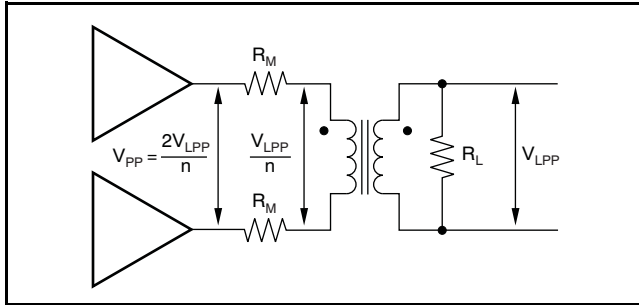
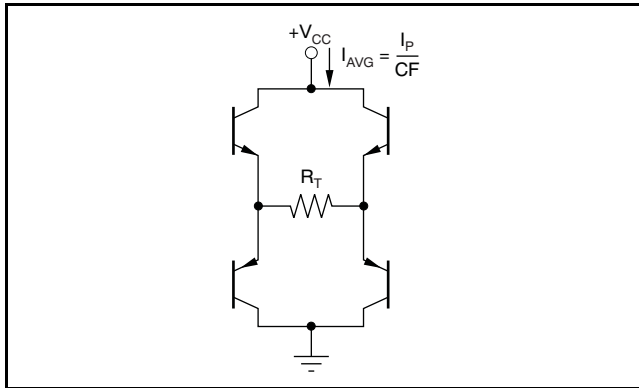

Figure 83. Driver Peak Output Voltage
Figure 86. Output Stage Power Model
with V_{PP} as defined in Equation 8, and R_M as defined in Equation 3 and shown in Figure 83.
The total internal power dissipation for the THS6204 in an xDSL line driver application will be the sum of the quiescent power and the output stage power. The THS6204 holds a relatively constant quiescent current versus supply voltage—giving a power contribution that is simply the quiescent current times the supply voltage used (the supply voltage will be greater than the solution given in Equation 11). The total output stage power may be computed with reference to Figure 86.
The two output stages used to drive the load of Figure 83 can be seen as an H-Bridge in Figure 86. The average current drawn from the supply into this H-Bridge and load will be the peak current in the load given by Equation 9 divided by the crest factor (CF) for the xDSL modulation. This total power from the supply is then reduced by the power in R_T to leave the power dissipated internal to the drivers in the four output stage transistors. That power is simply the target line power used in Equation 4 plus the power lost in the matching elements (R_M). In the examples here, a perfect match is targeted giving the same power in the matching elements as in the load. The output stage power is then set by Equation 12.